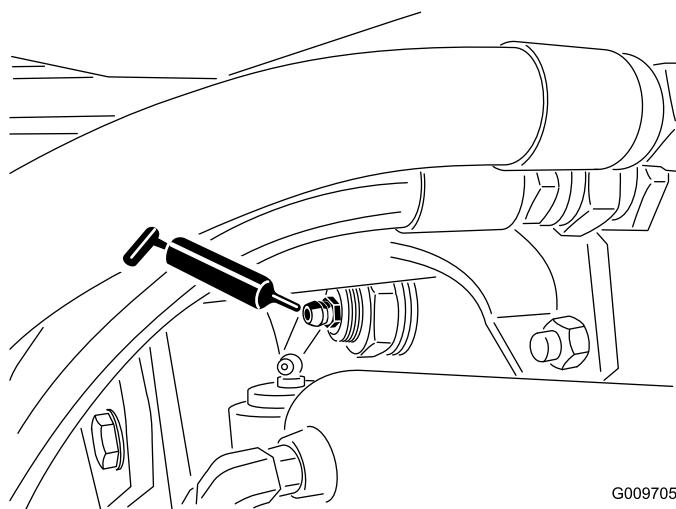

Figure 36
- Rear-axle-pivot bushings (2) as shown in Figure 36